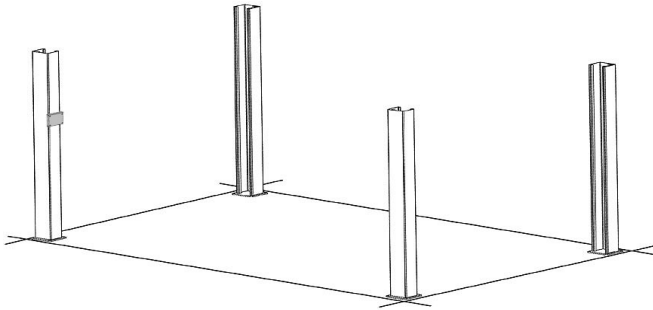

Fig 4.1
1. Place a chalk line on the floor according to the floor plan layout. Pay attention to the power Unit location. Locate and stand the columns at their respective locations. **DO NOT BOLT** Columns down at this time. Use caution to prevent the Columns from falling over. (See Fig. 4.1)